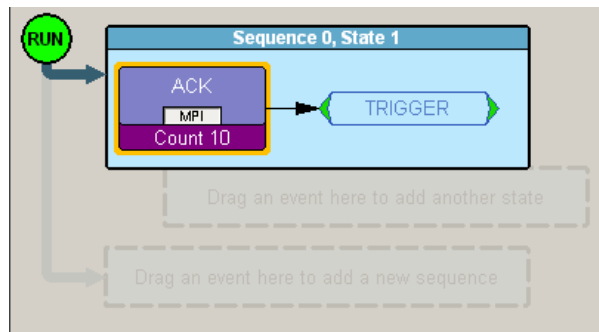

Figure 12.31 Example 2: Complete Rule
- Step 5** Close the Event properties dialog box. The counter value 10 now appears in the ACK Event button (Figure 12.31). The trigger occurs after the analyzer detects the tenth occurrence of an ACK.
- Step 1** From example 2, the ACK with counter is the first event in the state (Figure 12.31).